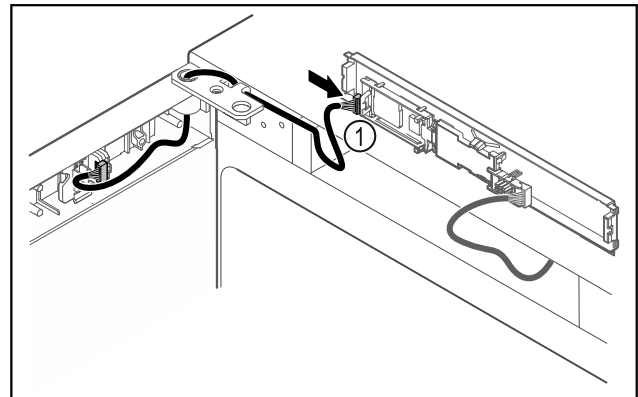

Fig. 49
- Connect the plug Fig. 49 (1) to the circuit board.